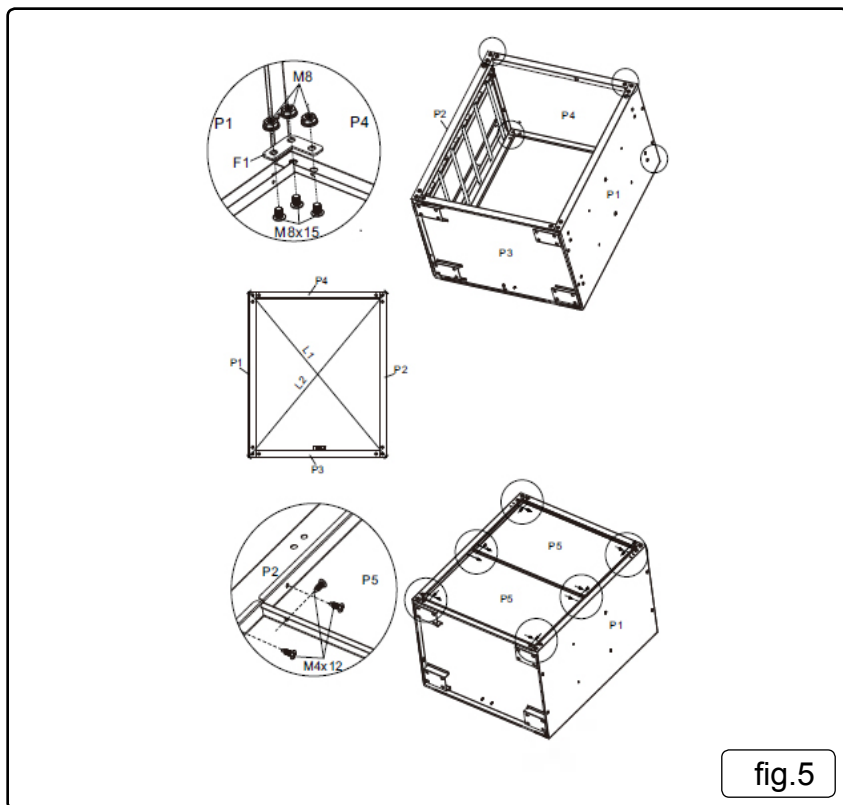

fig.5
- 5.4. Attach top of cabinet as per fig.5.
- 5.6. Position the two back panels and secure using screws provided as per fig.5.